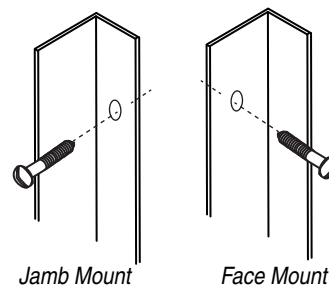

Figure 11
- ② Drill holes in "L" Angles for mounting to wall or jamb.
- ③ Attach using hardware appropriate to mounting surface and conditions (see Fig. 11).